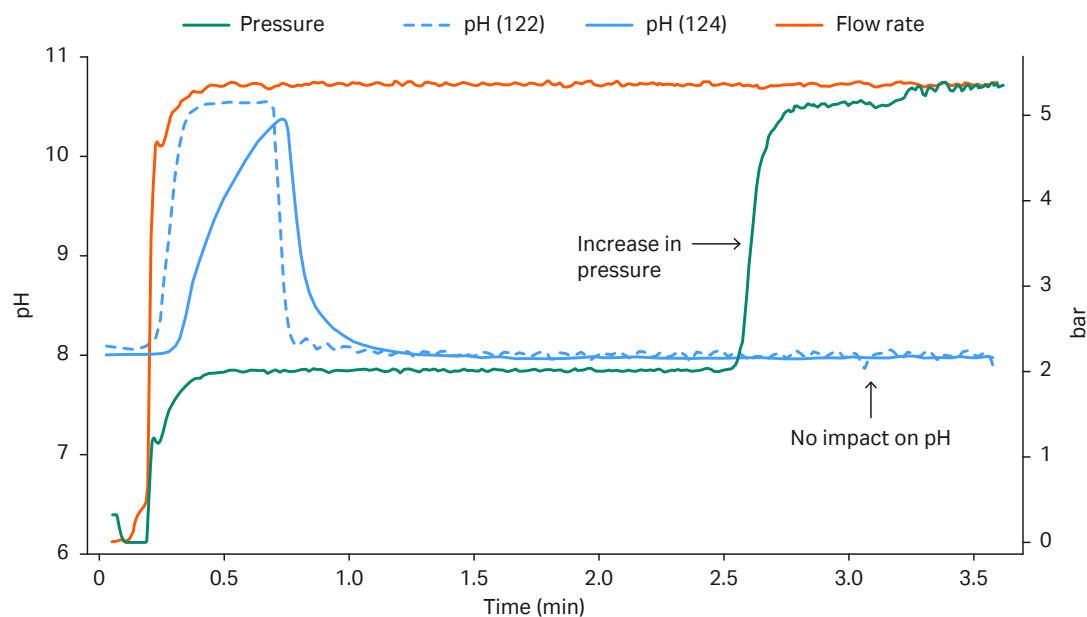

Fig 1. Pressure and pH readings during preparation of 16.0 mM Tris, 13 mM NaCl, pH 8.0 at 600 L/h.
A. Essentially, no influence. When changing the outlet with a manual valve that was half closed, no impact of the pressure increase on the pH and conductivity control was observed (Fig 1).